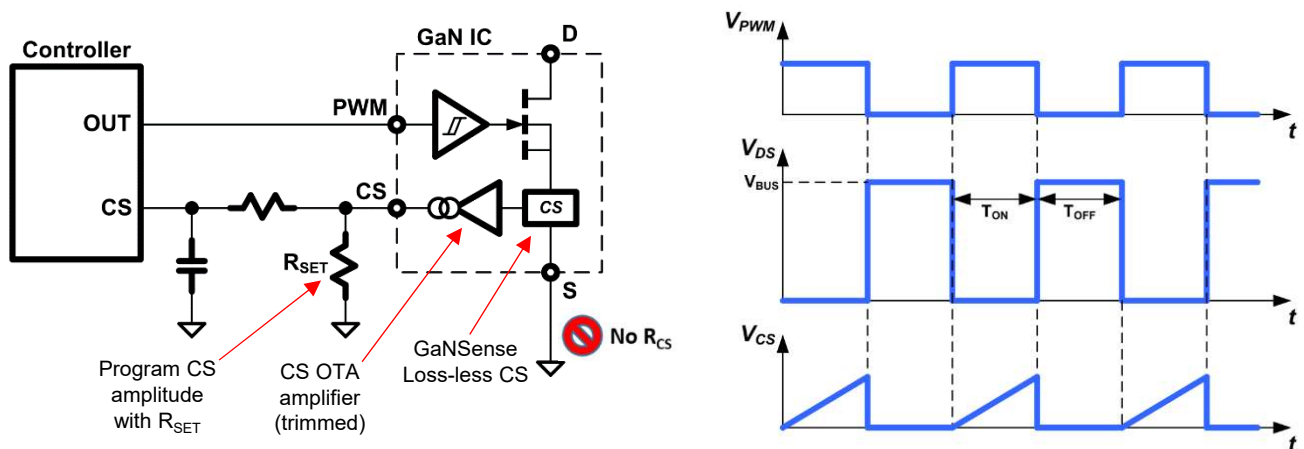

Fig 4. Loss-less current sensing circuit and timing diagram
For many applications it is necessary to sense the cycle-by-cycle current flowing through the GaN IC. Existing current-sensing solutions include placing a series-current-sensing resistor in between the Source connection of the power FET and P_{GND} . Using external current-sensing resistors increases system conduction power losses, creates a hot-spot on the PCB, and lowers overall system efficiency. To eliminate external resistors and hot-spot, and increase system efficiency, this GaN IC integrates accurate and programmable loss-less current-sensing. The I_{DS} current flowing through the GaN IC is sensed internally (Fig. 4) and then amplified, trimmed and converted to a current at the current-sensing output pin (CS). An external resistor (R_{SET}) is connected from the CS pin to the S_{GND} pin and is used to set the amplitude of the CS pin voltage signal. This allows for the CS pin signal to be programmed to work with different controllers with different current-sensing input thresholds.